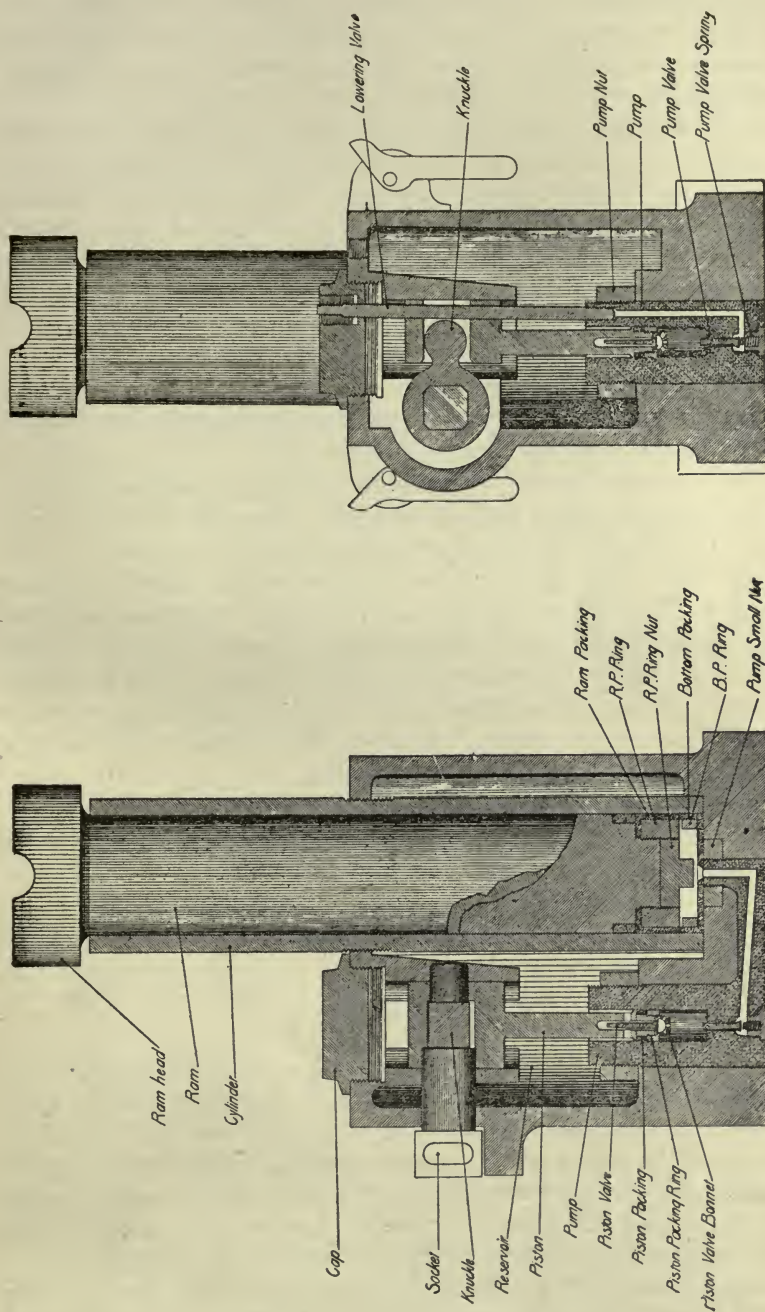

Figure 16. Horizontal Jack
*Nomenclature.* (See Figure 16.) There are two kinds of Dudgeon's Hydraulic Jacks; namely, the *Base Jack* and the *Horizontal Jack*. Both of these jacks are constructed according to the same principle and the method of operation is the same for both. In Coast Artillery, the horizontal jack only is used.